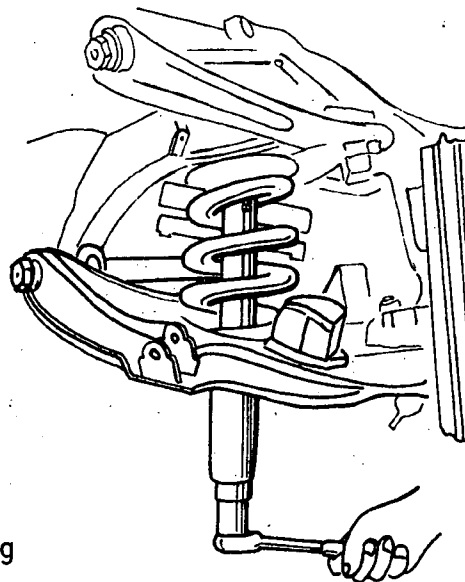

Fig. 2
- a) *Install the coil spring compressor and compress the spring (fig. 2.).*